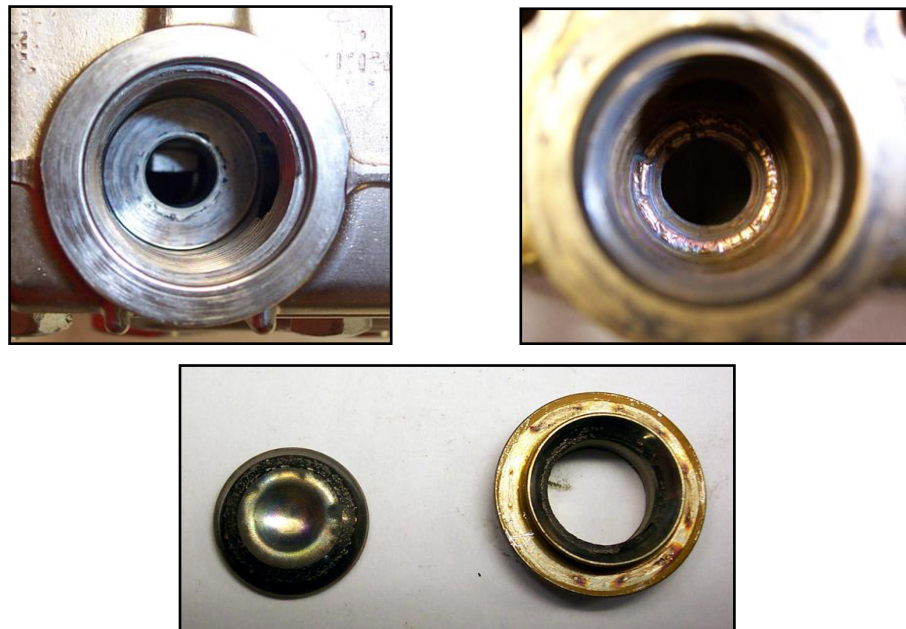

Figure 2. Inspect Manifold and Old Valves
5. Inspect the manifold for wear or damage (see Figure 2).